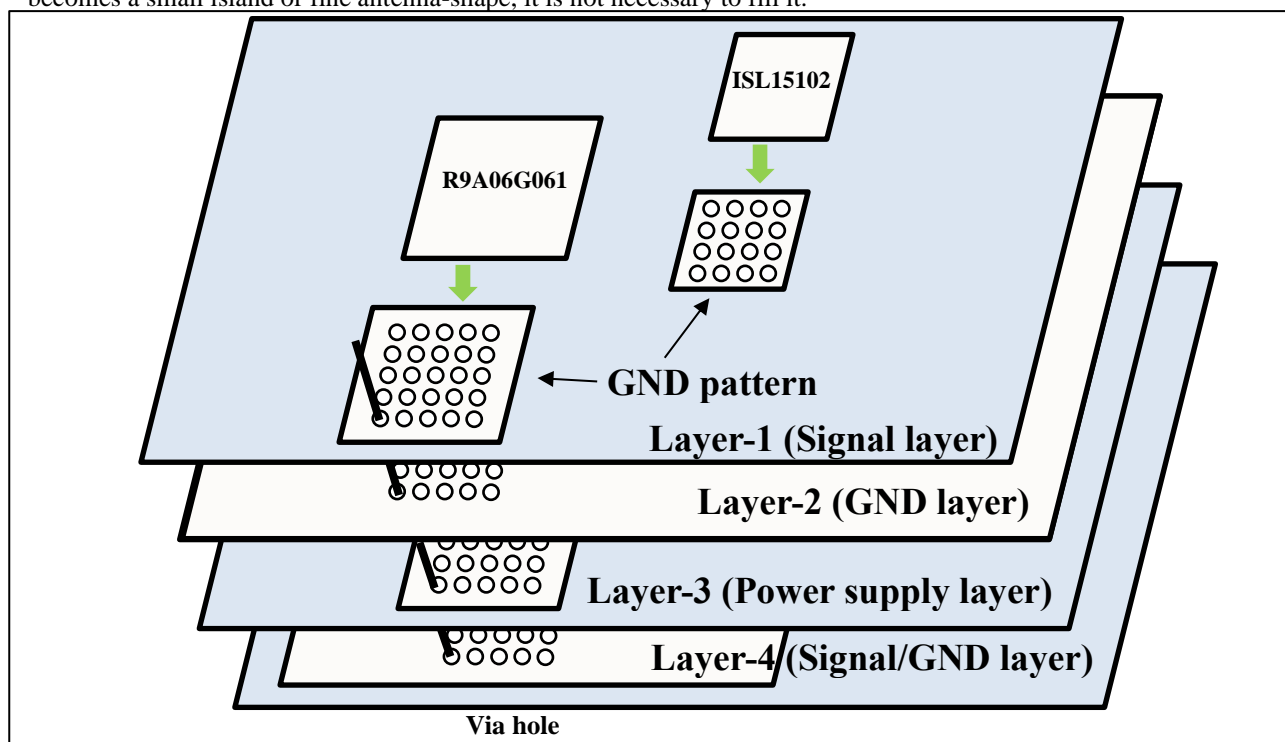

Figure 2-11 Example of PCB Substrate Configuration and GND pattern for the PLC Board
- It is recommended to configure the power supply layer with the PCB substrate configuration of the PLC board as shown in Figure 2-11.